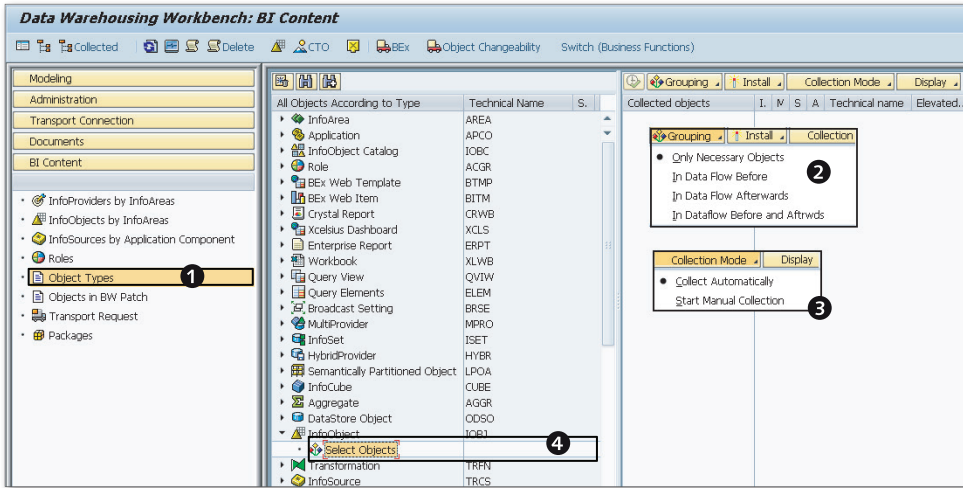
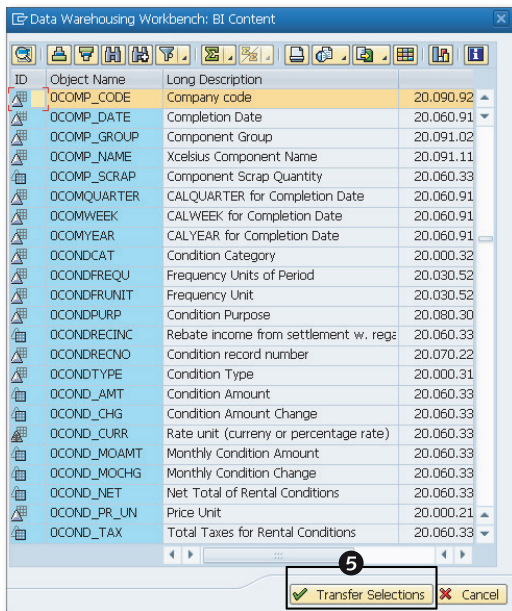
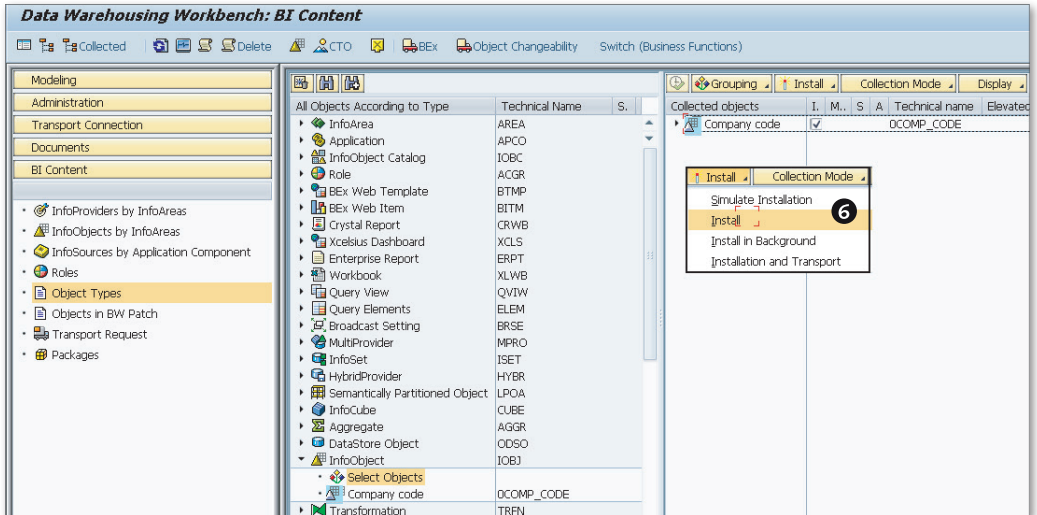

Figure 3.3 Settings to Activate an InfoObject
Figure 3.4 Selecting the InfoObject(s) to Activate
Figure 3.5 Activating an InfoObject
By default, none of the SAP-supplied InfoObjects are active, so we'll start by activating them. The process, illustrated in Figure 3.3, Figure 3.4, and Figure 3.5, is as follows:
2. In the left pane, select OBJECT TYPES (Figure 3.3, 1).
3. In the right pane, under GROUPING, select ONLY NECESSARY OBJECTS. For COLLECTION MODE, select COLLECT AUTOMATICALLY (Figure 3.3, 2 and 3).
4. Under INFOOBJECT in the middle pane, double-click on SELECT OBJECTS (Figure 3.3, 4). This opens the INPUT HELP FOR METADATA dialog box.
6. When finished, click on TRANSFER SELECTIONS (Figure 3.4, 5).
7. In the DATA WAREHOUSING WORKBENCH: BI CONTENT window, under INSTALL, select INSTALL to activate the InfoObject (Figure 3.5, 6).